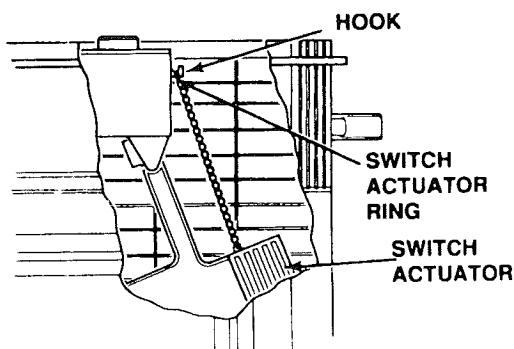

Figure 12
- a. Loop switch actuator ring around plastic hook located directly above the switch actuator.(Fig. 12)